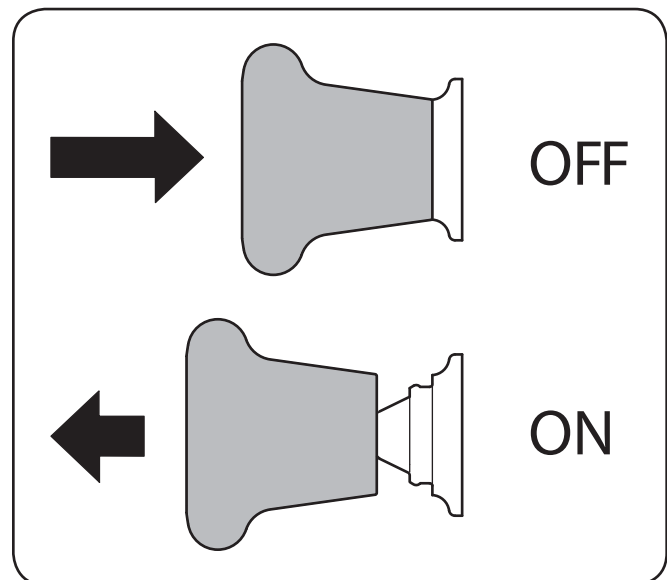

Figure 5-3
2. Pull the PTO switch up/out into the engaged (ON) position. See Figure 5-3.